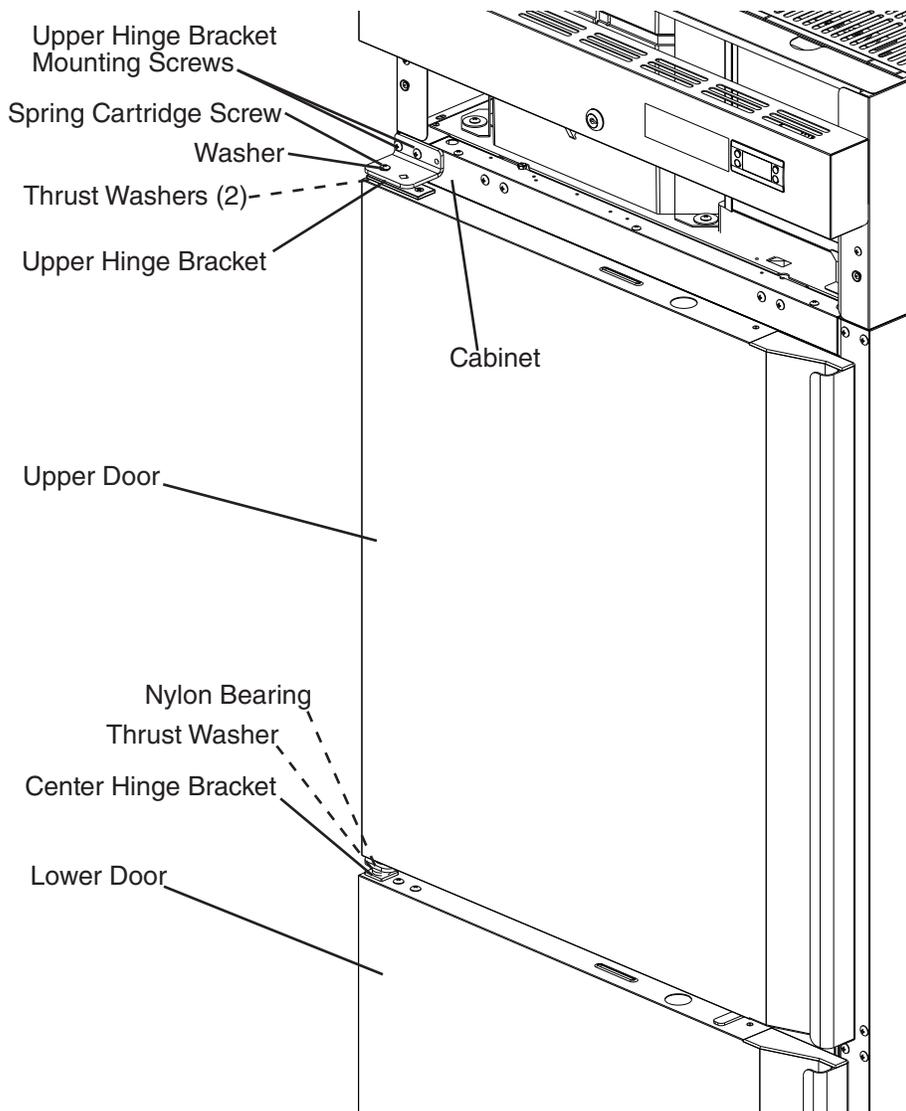

Fig. 36
- 18) With the door in the closed position, place the upper doors nylon bearing onto the center hinge bracket upper pin, then secure the upper hinge bracket to the cabinet with the upper door in the closed position. See Fig. 36.